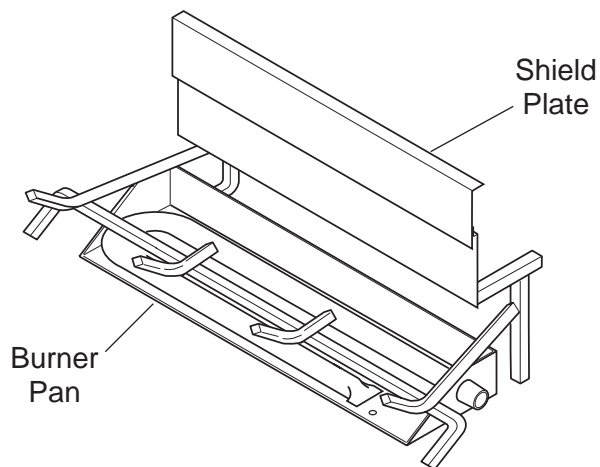

Figure 122 - Sliding Shield Plate Down Back of Burner Pan
1. Slide shield plate down back of burner pan. *See Figure 122.*